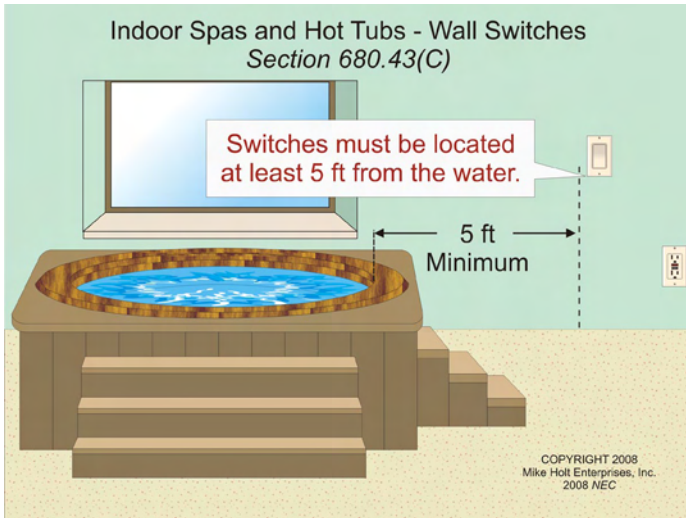

Figure 680–41
(2) Surface-mounted luminaires with a glass or plastic globe, a nonmetallic body, or a metallic body isolated from contact, and suitable for use in damp locations.
(C) Switches. Switches must be located not less than 5 ft, measured horizontally, from the inside walls of the indoor spa or hot tub. **Figure 680–41**